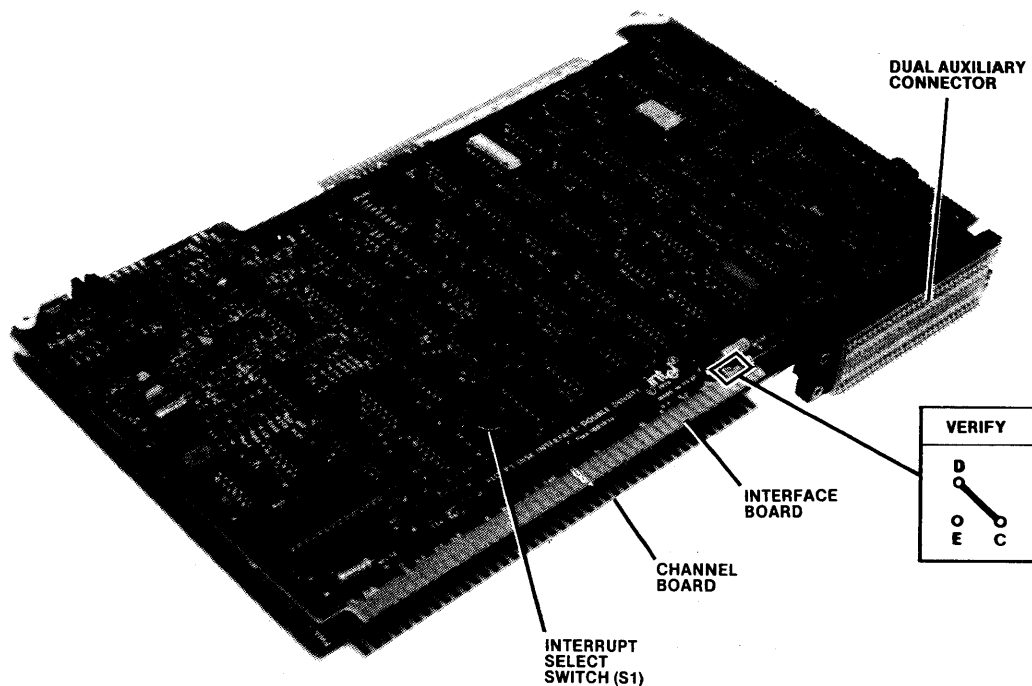

Figure 5-10. Double Density Diskette Controller
As shown in figure 5-10, the dual channel diskette controller (DDDC) consists of a channel board, an interface board, and a dual auxiliary connector. Configure and install the DDDC boards as follows:
Figure 5-10 shows the dual auxiliary connector installed such that the interface board will be mounted above the channel board when installed in the mainframe or optional expansion chassis cardcage. As shown in figures
- c. On interface board, verify that a hardware jumper exists between points D and C as shown in figure 5-10. If jumper exists between points D and E, remove it and reinstall as shown.
- d. Install dual auxiliary connector on channel board and interface board edge connectors as shown in figure 5-10. Make certain that connector is properly aligned with traces brought out to edge of boards.